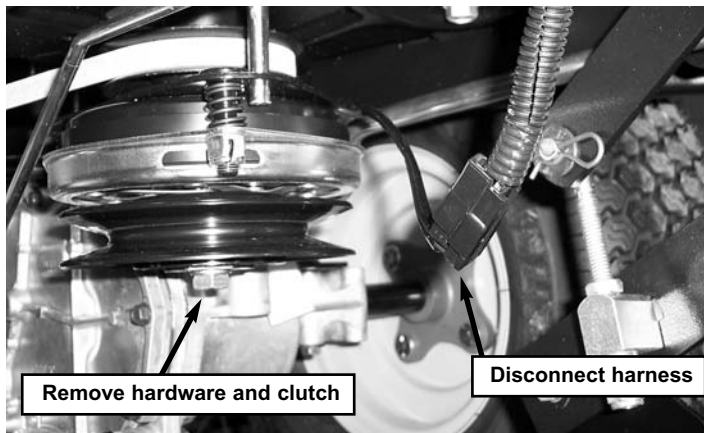

FIGURE 1
STEP 3: Carefully cut the wire tie securing the electric clutch harness to the clutch retainer. Then disconnect the electric clutch harness from the unit's main electric harness. See Figure 1.
STEP 4: Remove the hardware securing the electric clutch to the engine shaft. Remove the clutch and clutch key from the engine shaft. See Figure 1.